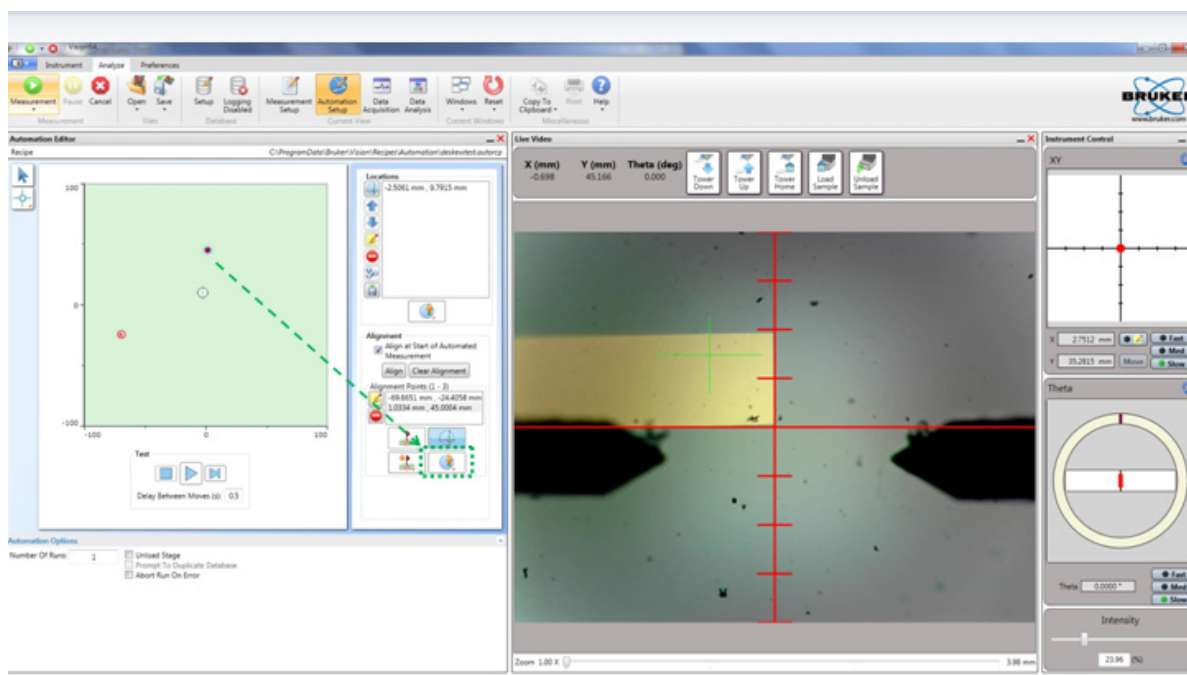

Figure 4-13: Setting the Deskew Alignment Point
- c. In the Automation Editor, click the **Add Alignment Site** button. A solid red circle now appears at that location (see Figure 4-13).